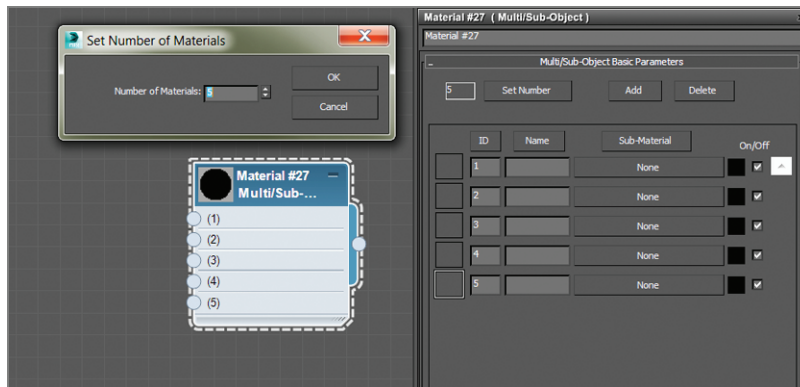

FIGURE 10.19 Multi/Sub-Object material and parameters
2. Double-click the title bar to add the material to the Parameter Editor. Click the Set Number button and change Number Of Materials to 5, as shown in Figure 10.19. Change the name to **Window/Door**.